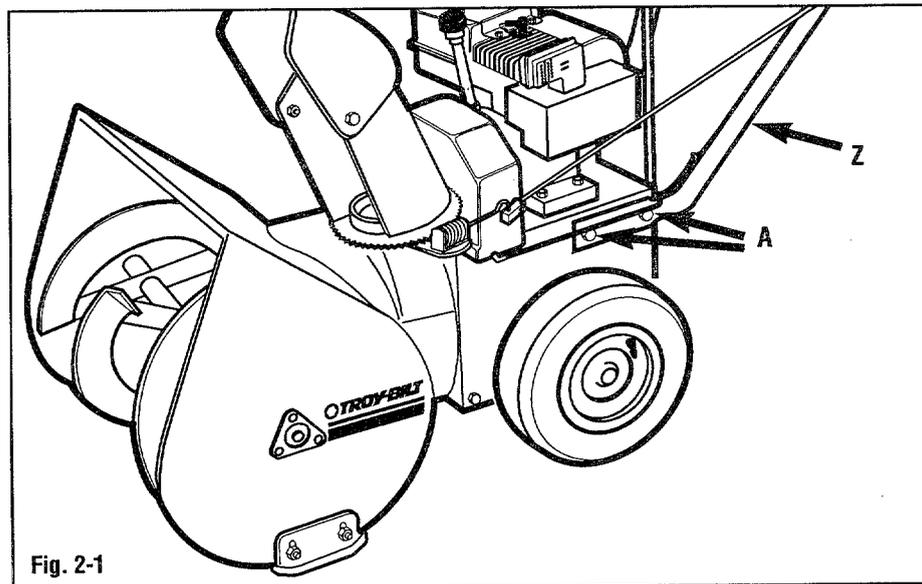

Fig. 2-1
1. Position the handlebars (Z, Fig. 2-1) as shown, so the holes in the handlebars align with the holes in the upper rear corners of the snowthrower frame.
2. Loosely install four 5/16"-18 x 5/8" hex flange bolts (A).
3. Evenly tighten all four bolts (A).